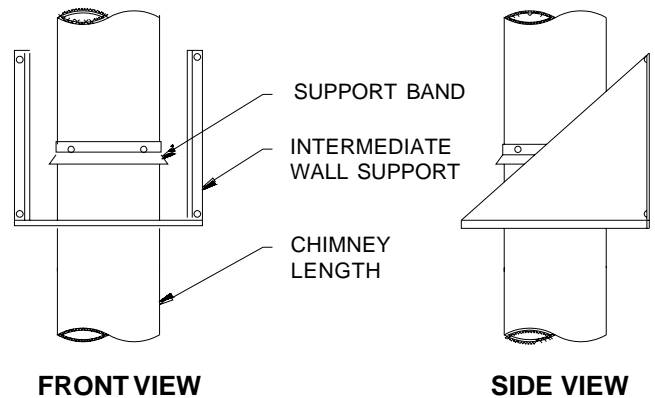

FIGURE 22
2. Install one length of chimney on the second elbow and secure in place with a locking band. Assemble the intermediate wall support with the four (4) stove bolt provided and slide the assembly over the section just installed. Fasten the intermediate wall support to the wall using four 1/4 x 2" lag bolts, or wood screws so that the hole in the plate is located in the middle of the chimney section. Install the draw band around the chimney so that it is securely against the support plate and supporting the weight of the chimney. Install four sheet metal screws firmly into the outer casing of the chimney, through the pre-punched holes in the draw band. See figure 22.